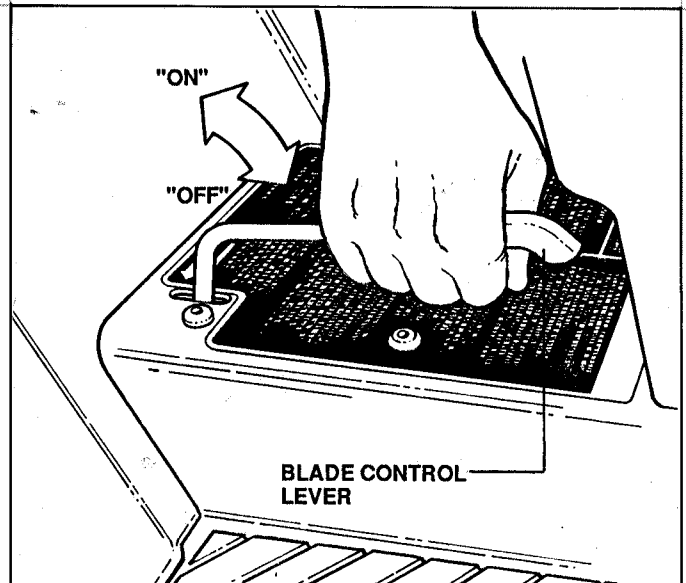
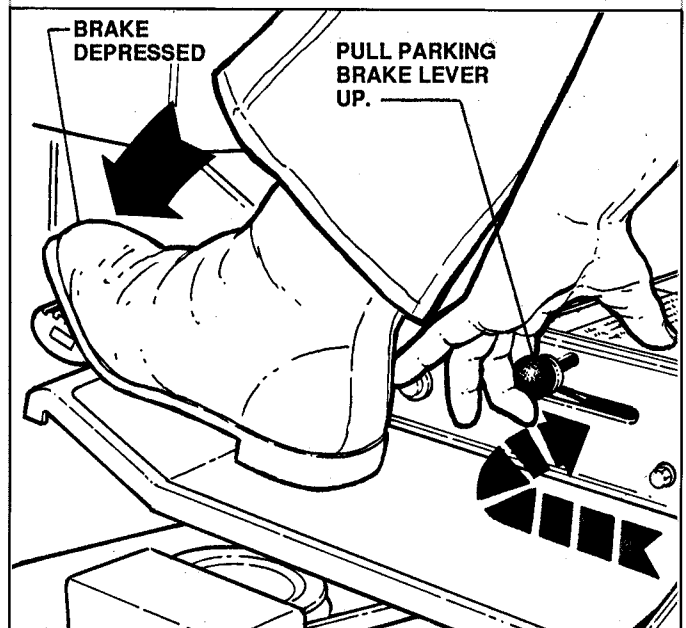

FIGURE 4
FIGURE 7
MOWER BLADE: STOP MOWER BLADE by pushing BLADE CONTROL lever downward to "OFF". See Figure 4.
1. PUSH **BLADE CONTROL LEVER** downward to "OFF" position (Fig. 4) and fully depress the **CLUTCH/BRAKE pedal** (Fig. 7), so that Safety Interlock System will allow engine to start.
Depress **CLUTCH/BRAKE PEDAL**. Pull **PARKING BRAKE LEVER** "UP" while releasing pedal. See Figure 7.